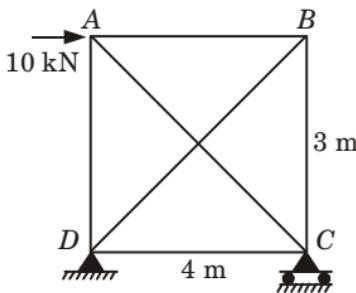

Fig. 25.
- a. Determine the forces in all the members using method of substitution, for the given Fig. 25.**